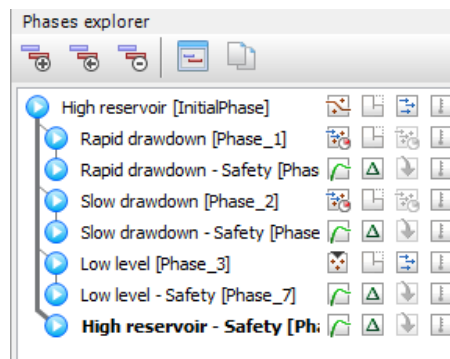

Figure 14–14: The final view of Phases explorer
- 6 The final view of the phases explorer window is shown in Figure 14–14 \(p. 228\).